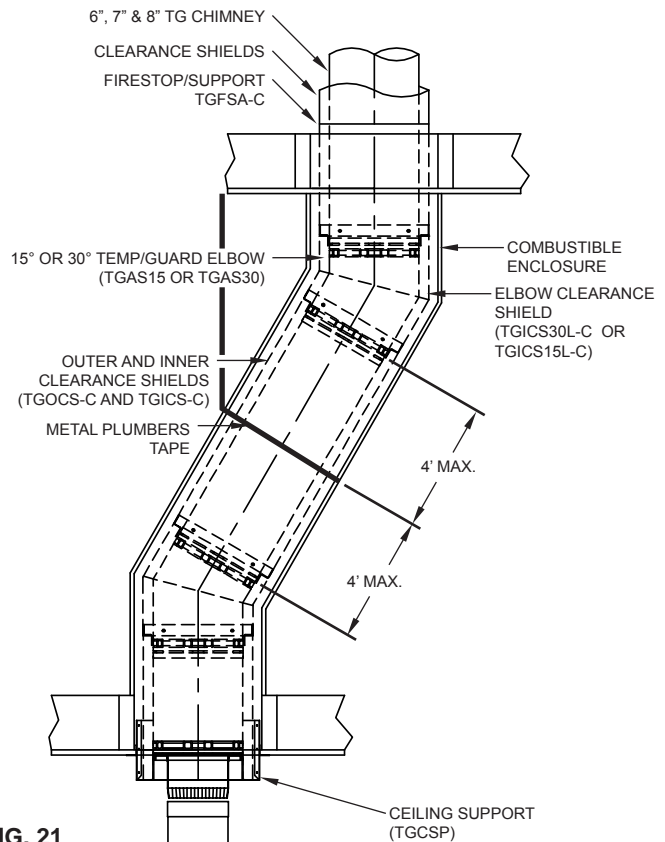

FIG. 21
3. For wood or coal stove applications where the Temp/Guard Chimney uses 15° or 30° elbows and is enclosed clearance shields must be used. Use combinations of the inside and outside clearance shields to telescope the components together securing in place with the self tapping screws provided. The elbow shields (TGICS15L-C and TGICS30L-C are inside shields and must utilize outside shields on each end of the elbows (See FIG. 21). Each floor level must use a firestop/ support (TGFSA or TGFSA-C when using shields). Continue attaching the Temp/Guard chimney and clearance shielding through the flashing.